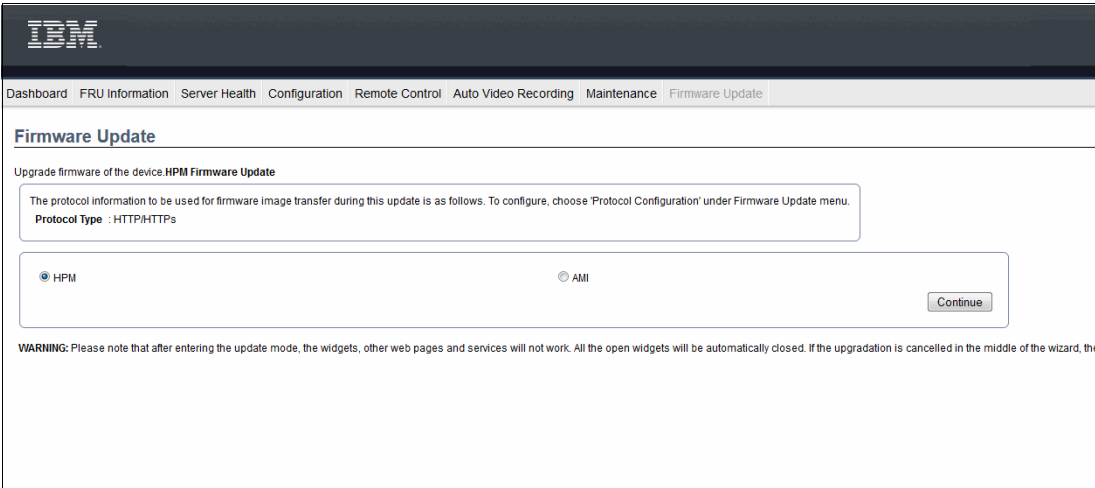

Figure 3-4 Select the firmware image type
3. Select the correct firmware update image type. In this example, select **HPM**, which is the only type that is provided by the IBM Fix Central website, as shown in Figure 3-4.